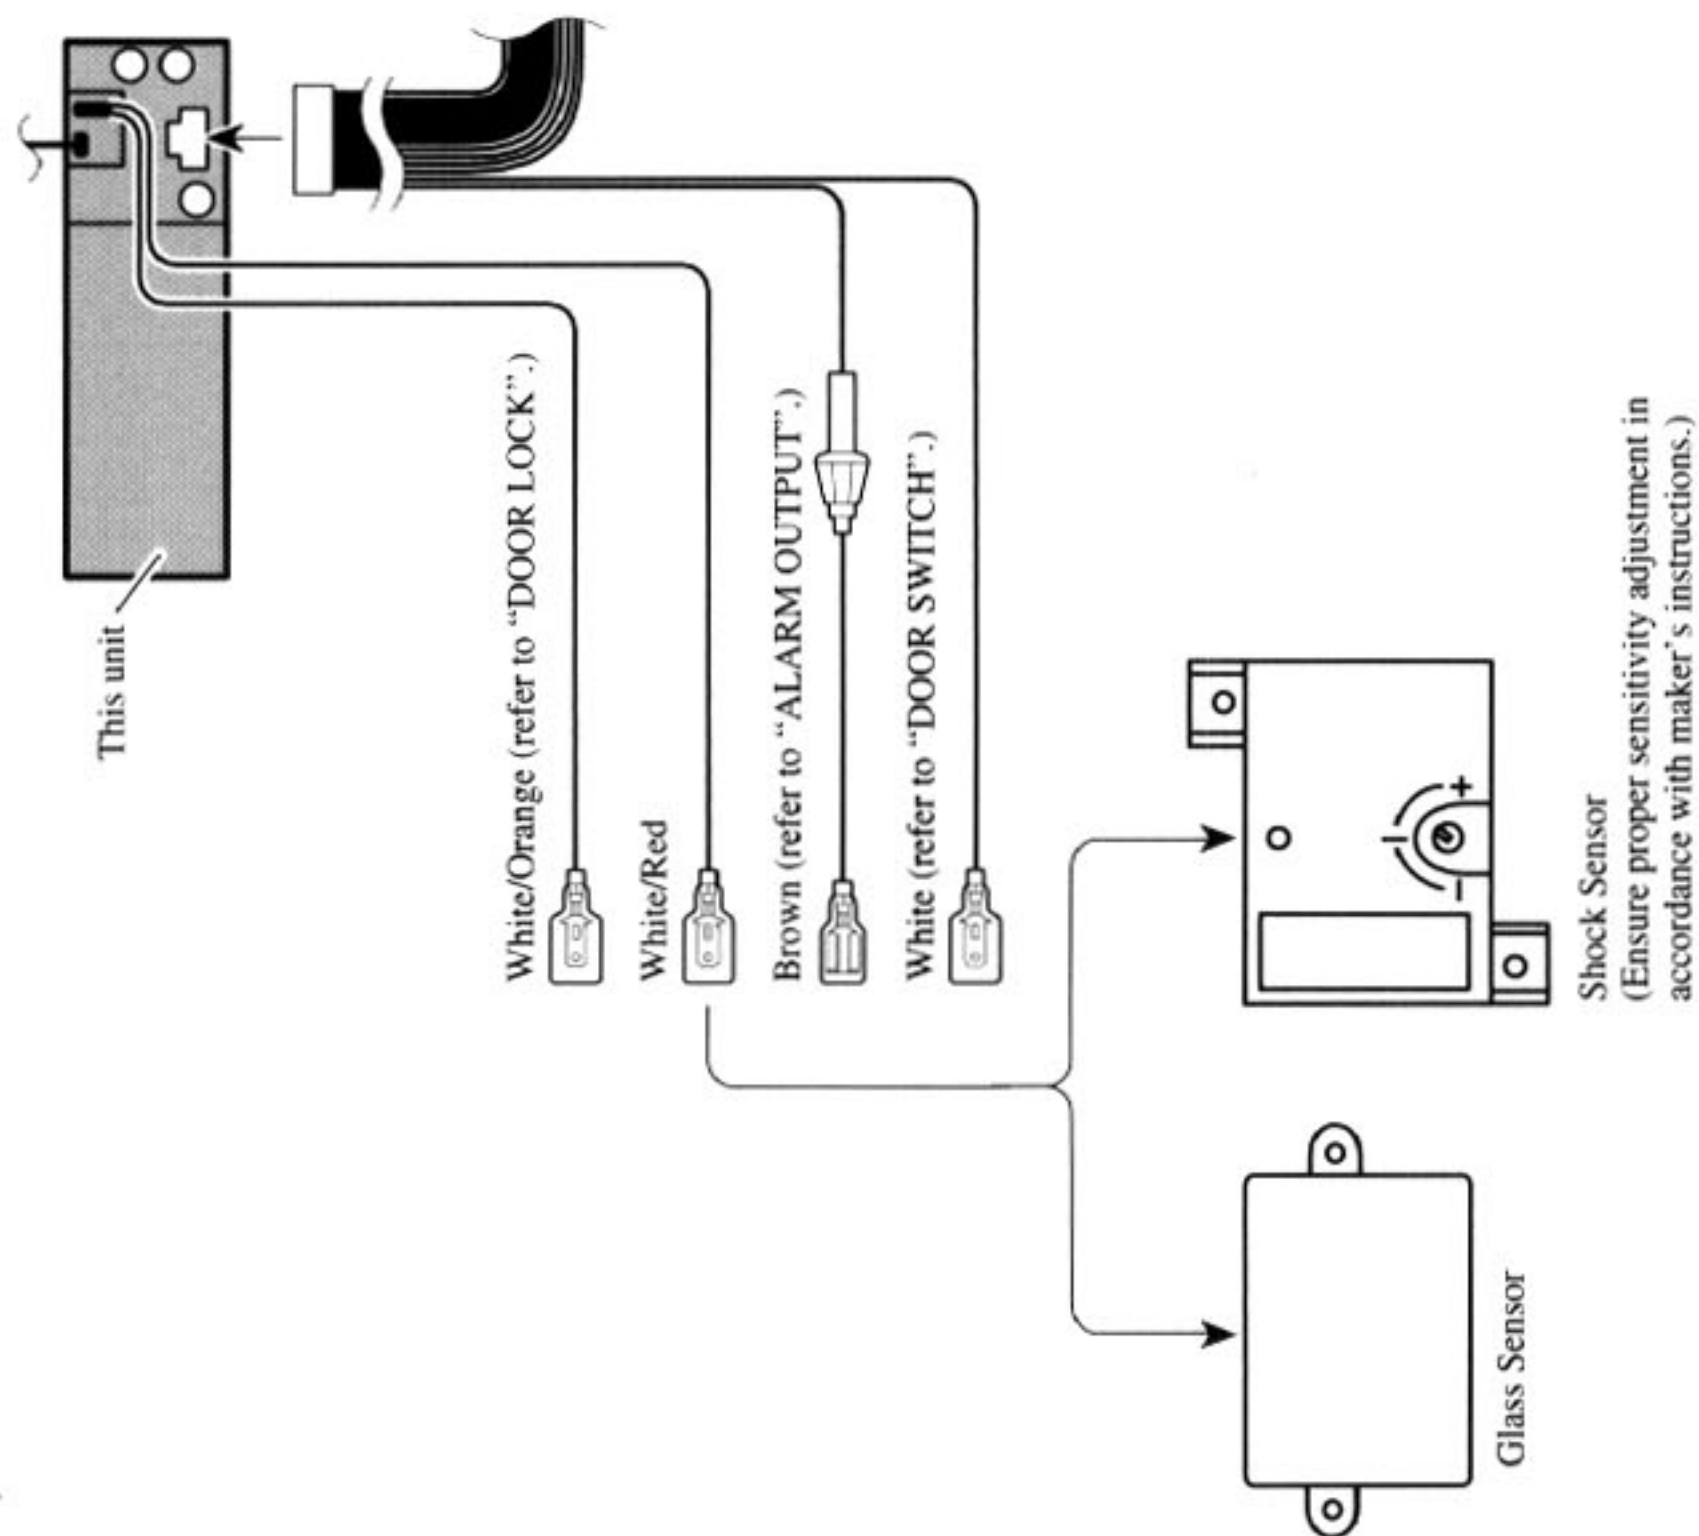

Fig. 32
- White/Red (ALARM SENSOR)** ..... (Fig. 32)